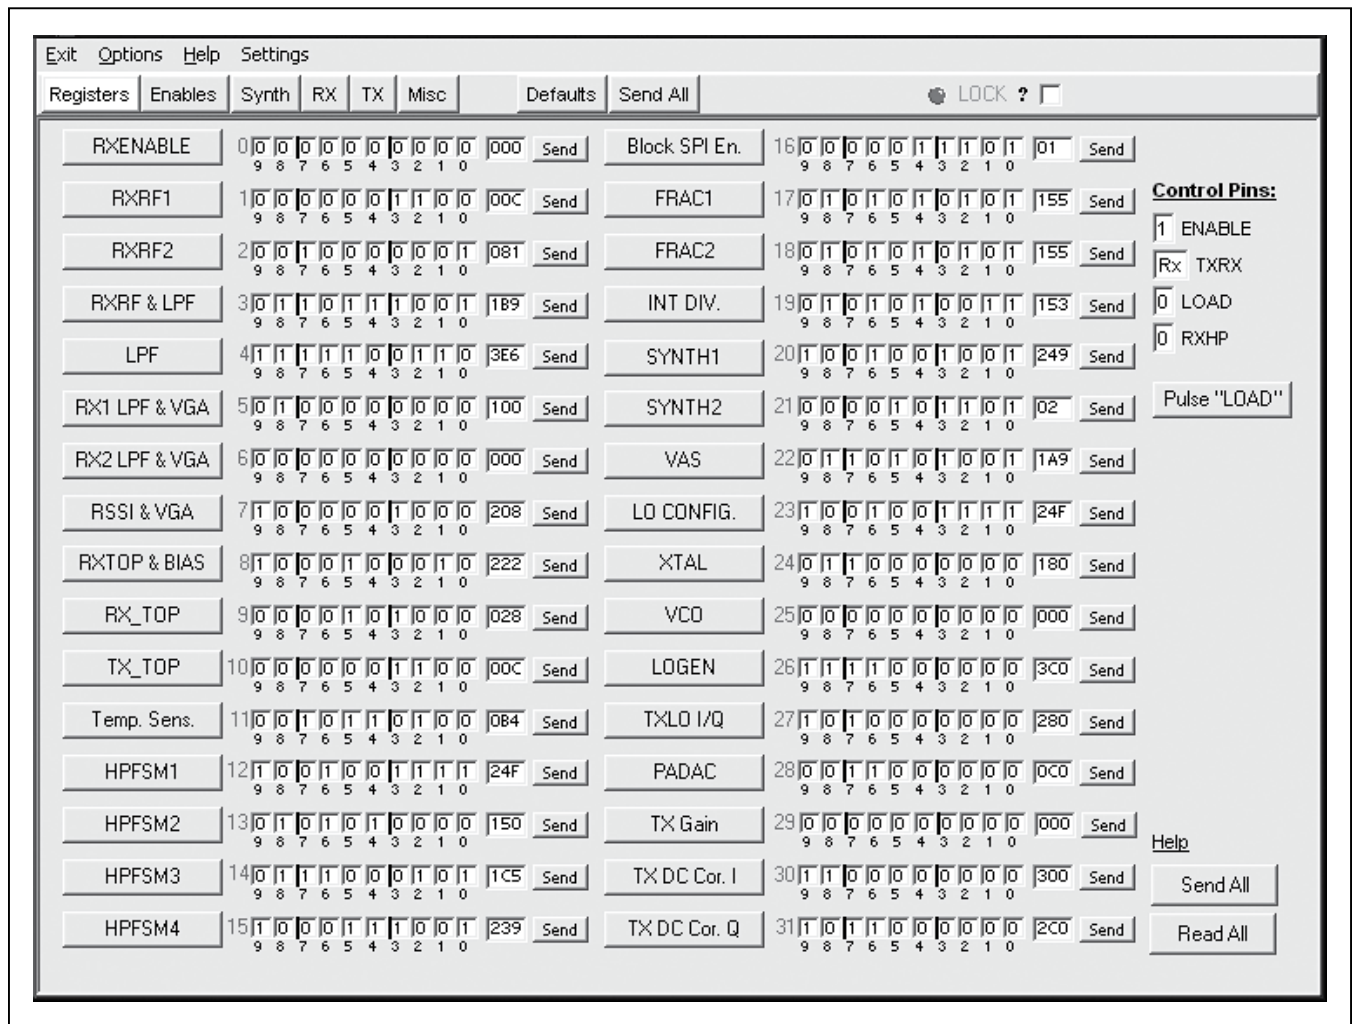

Figure 1. Receive Mode Register Setting
- 3) In the register panel of the software, enter the recommended register setting shown in Figure 1 for operating the MAX2839 in steady state receive mode bench measurement. This setup fixes the VGA high-pass corner at 1kHz.